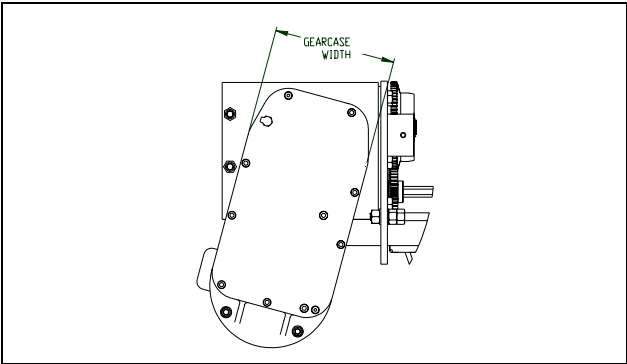

FIGURE 4-2. Gearcase Width Illustration.
- e) Refill through filler hole to proper level (bottom of oil level plug hole) using **GCOH** (Paragraph 4-7). The amount of oil required depends on overall size of gearcase; two sizes are used for “Global King” hoists. To determine size and amount of oil to add, measure width of hoist gearcase (see Figure 4-2). The “B” Frame measures 11-3/4” and requires approximately 6 quarts of oil. The “C” Frame’s width is 14-1/2” and requires approximately 12 quarts of oil.